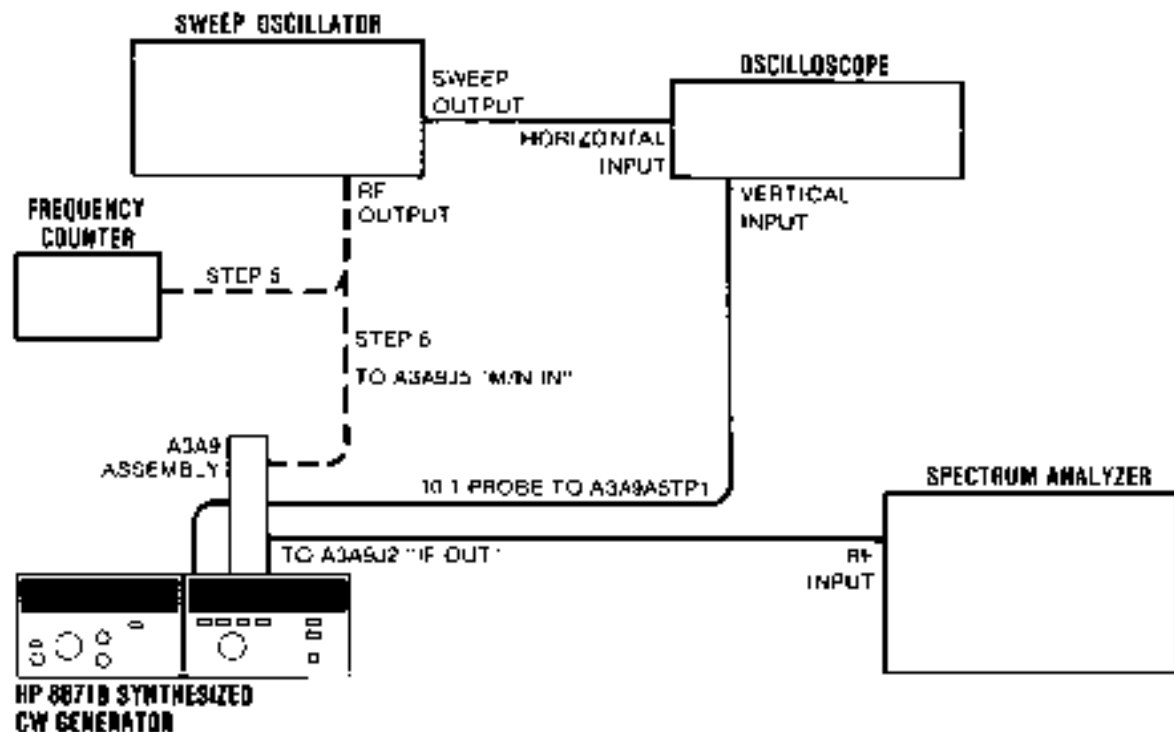

Figure 5-6. YTO Loop Sampler Adjustment Test Setup
5. Connect the equipment as shown in Figure 5-6. The leads from the 3 dB attenuator should be as short as possible. Connect the ground wire to the negative side of A2A4C4.
6. Connect the equipment as shown in Figure 5-6. Connect the CW Generator's mains power cord and set the LINE switch to ON.